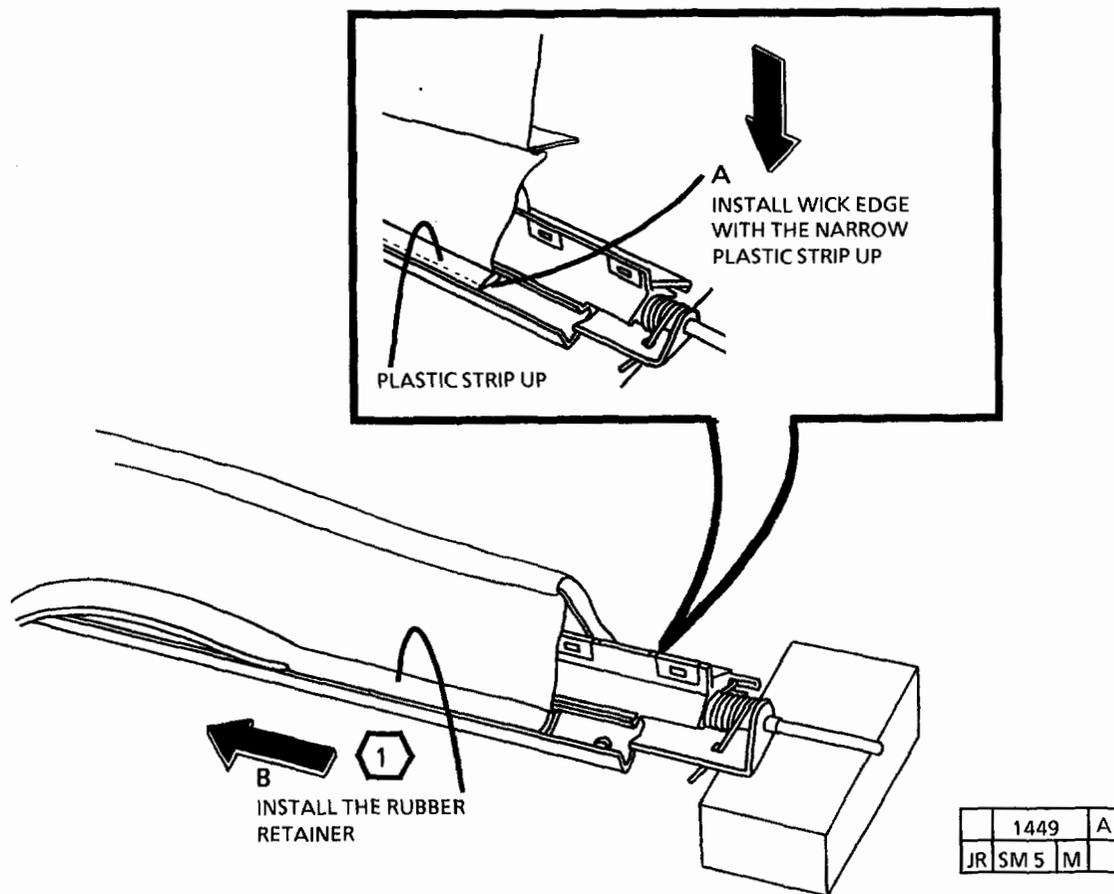

Figure 3. Install the Wick Edge with the Narrow Plastic Strip
1. (FIGURE 3): INSTALL THE WICK EDGE WITH THE NARROW PLASTIC STRIP.